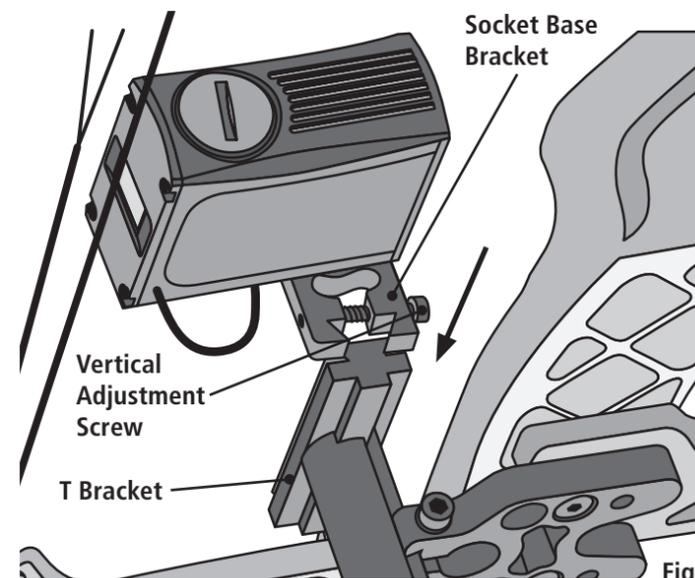

Fig.3
3) Slide the notched jaw of the Socket Base Bracket with the Vendetta attached to it, onto the dovetail side of the T Bracket with the battery cover facing up toward the top of the riser and the LED display facing the bowstring. Adjust the position of the Vendetta so that the bottom of the Vendetta mounting plate is above your sight pins so that the optical lenses are not obscured by the bow. Slightly tighten the Vertical Adjustment Screw until there is enough tension to keep the Vendetta in place until the final adjustments have been made. (Fig.3)